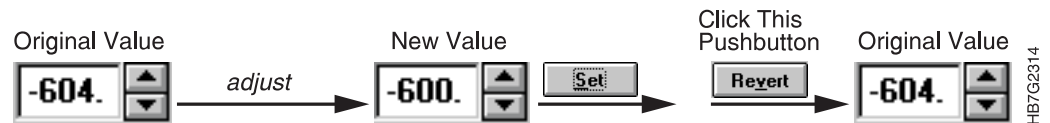

Figure 46. Revert Pushbutton
**Revert** When you enter new values and have already clicked the **Set** pushbutton, use the **Revert** pushbutton, as shown in Figure 46, to revert to the original values. You can do this only when one or more values have been adjusted and sent to the PES by the **Set** pushbutton, and the numbers are black.